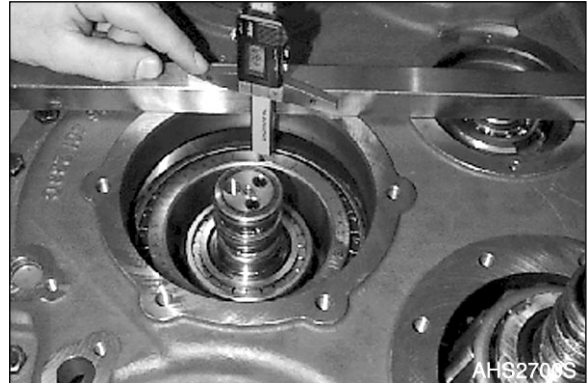
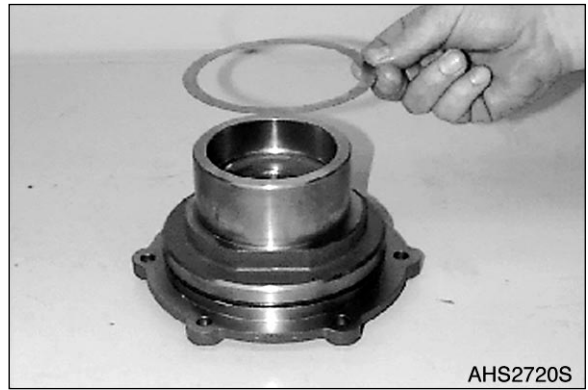

Figure 322
Figure 324
20. Adjust bearing preload – Clutch K3/K4 = 0.00 - 0.15 mm (0.00 - 0.0059 in) (Figure 322 - Figure 324).